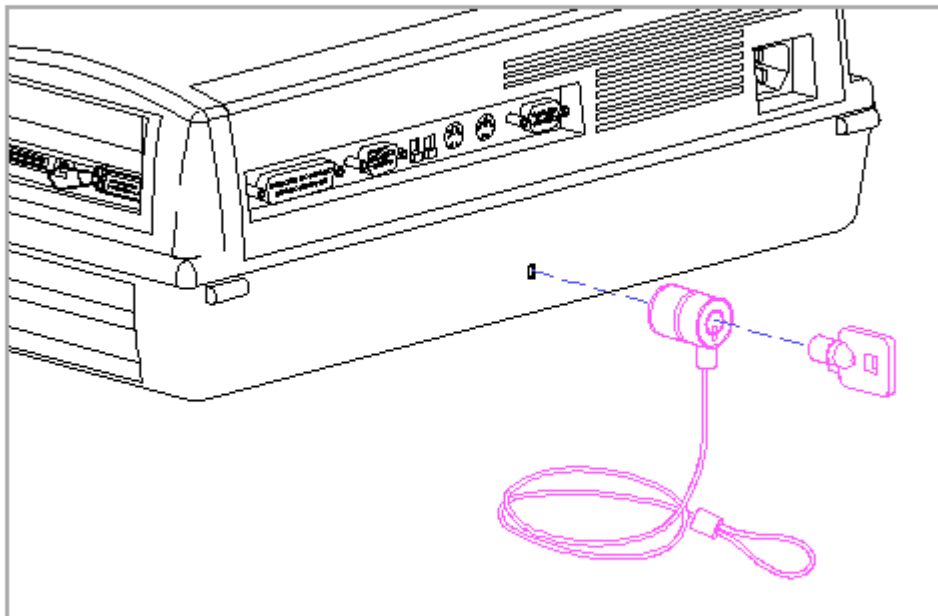

Figure 6-18. Kensington Cable Lock
- o A slot provided for an optional cable lock to lock the expansion base to an immovable object (Figure 6-18)
NOTE: The cable lock, Kensington MicroSaver Security System Model 64068 (Figure 6-18), is available from Kensington Microware Limited or major computer resellers worldwide at 1-(415)-572-2700. The cable lock is not available through Compaq.